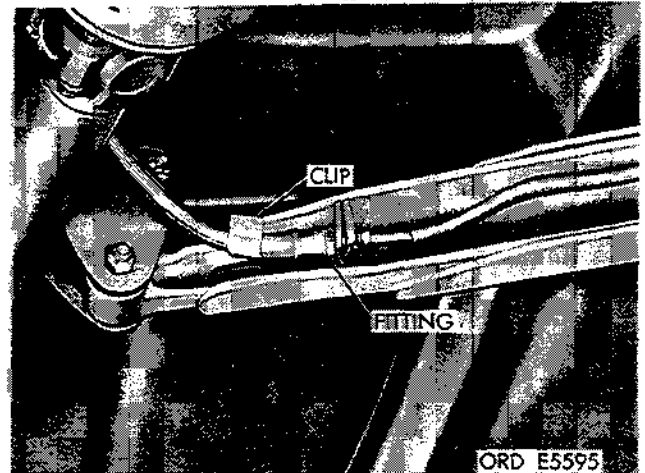

Figure 2-345. Remove fitting from clip.
- (6) Unscrew brake hose fitting on suspension arm and remove from clip (fig. 2-345).